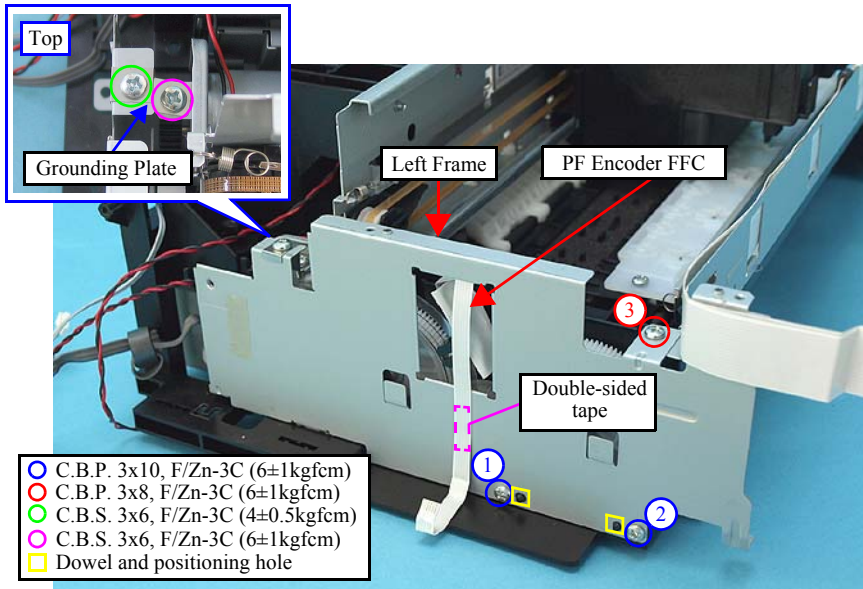

Figure 4-44. Removing the Left Frame
- Make sure to route the PF Encoder FFC through the hole of the Left Frame, and secure it with a double-sided tape as shown in Figure. 4-44.
- Make sure to match the dowels of the Base Frame and the positioning holes of the Left Frame as shown in Figure. 4-44.
- When installing the Left Frame, tighten the screws in the order given in Figure. 4-44.